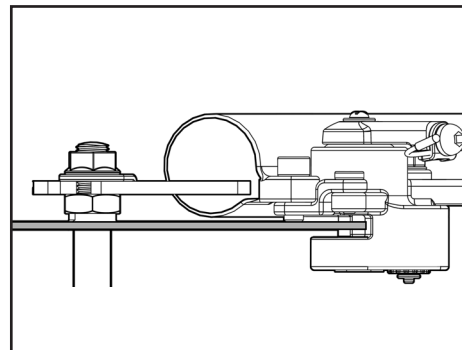
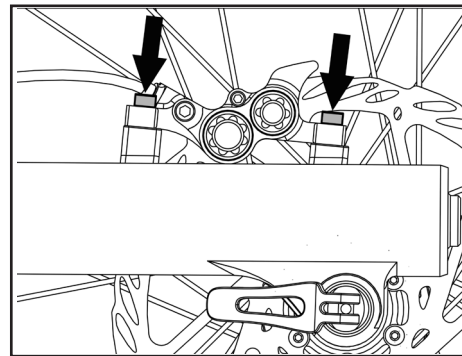

Figure 34
Figure 35
When installed properly, the disc brake rotor should be centered between the brake pads, and securely fastened to the wheel (see Figure 34). Use (C) a 4, 5, or 6 mm Allen Wrench to check the rotor mounting bolts to ensure that none of the bolts are loose. To tighten the brake cable, loosen the cable anchor bolt, pull the cable taught, and re-tighten the bolt (see Figure 35).
Ensure that the mounting bolts on Disc Brake are evenly tightened (see Figure 35). If not, the Disc Brakes will be out of alignment with the Rotor, and you will not be able to brake efficiently or safely.